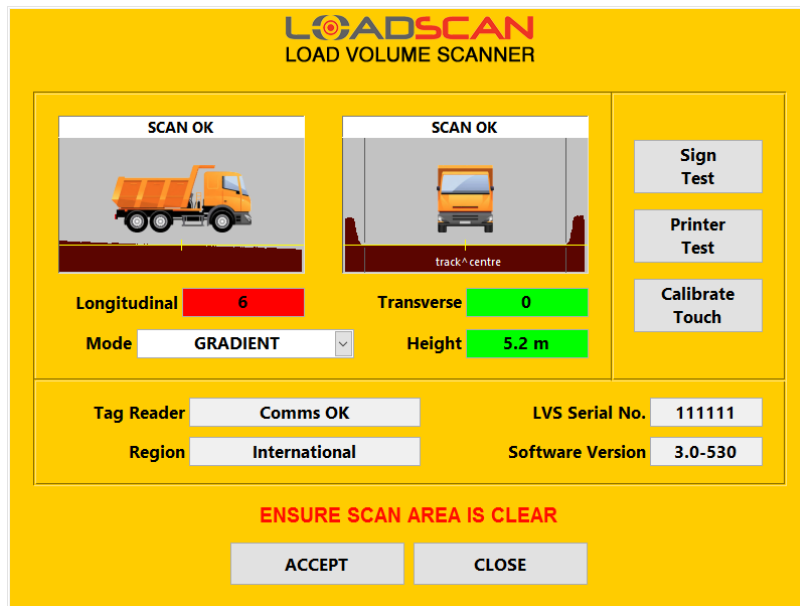

Figure 28 – operator console System screen
2. When initialisation is complete, open the SYSTEM screen (figure 28) on the operator console (system password required).
1. Open the SYSTEM screen (figure 28) on the operator console (system password required).